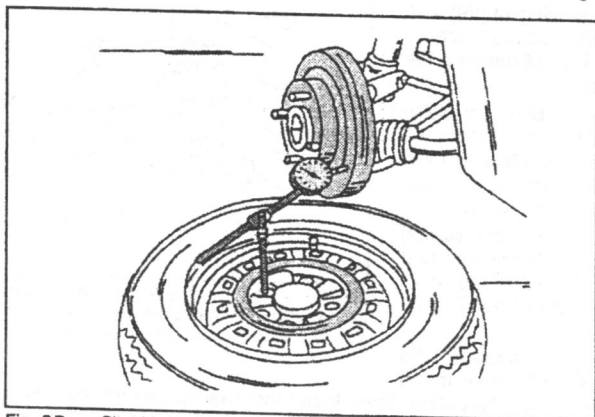

Fig. 8.7. — Checking a brake disc for run-out. The wheel can be used to mounting the dial gauge.
- Arrange a dial gauge with a suitable holder (a good solution is shown in Fig. 8.7) and apply the stylus approx. 2 mm from the outer edge of the disc. Slowly rotate the wheel hub/disc and observe the dial gauge reading. The highest run-out is 0.15 mm (0.006 in.). Higher readings can be due to dirt between disc and hub. In this case remove the disc once more and check the surfaces.